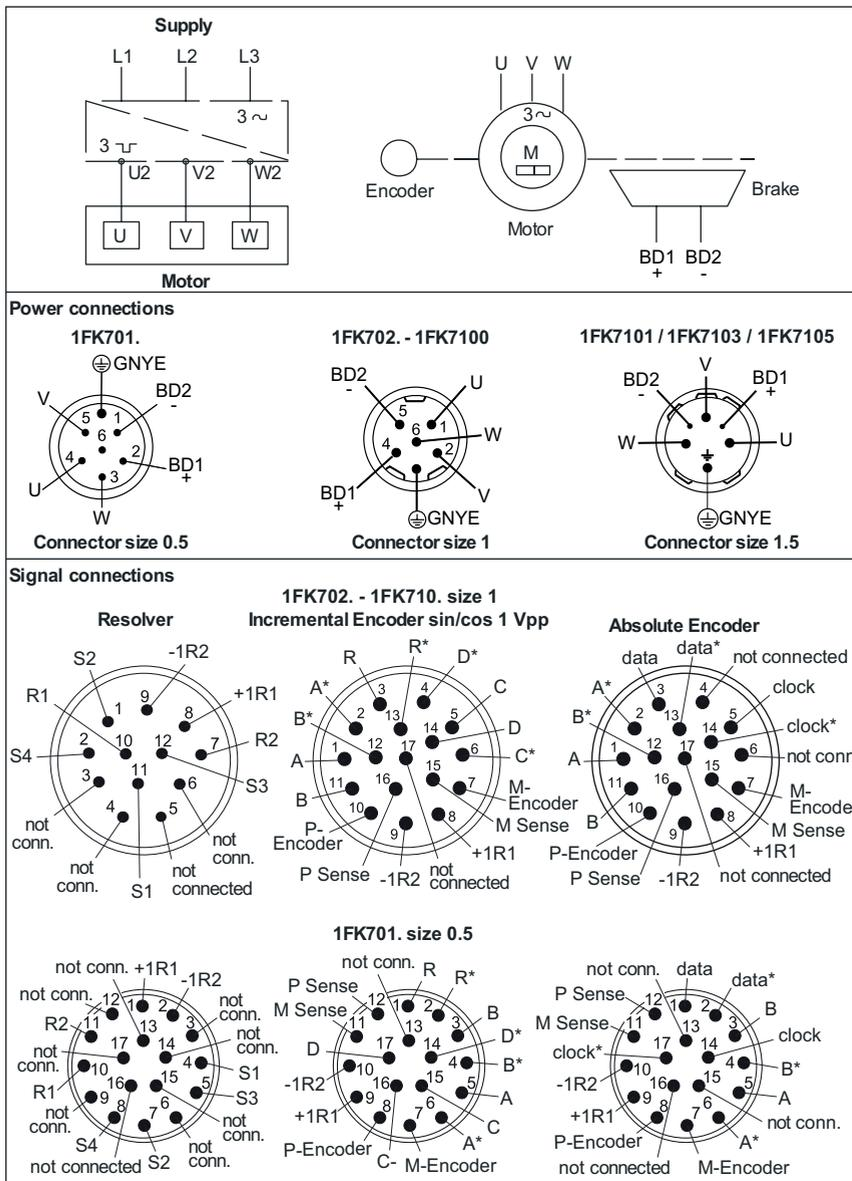

Fig. 5 Connection configurations and pin assignment of the connectors
- Observe the data on the type plate (Section 3.1) and the information in the wiring diagrams (Fig. 5).
3. Connect the brake via Fig. 5 the power plug. The polarity must be carefully observed.
2. Assign the plugs according to Fig. 5.
Apply 24 V DC $\pm 10\%$ to the pins +BD1, -BD2 (Fig. 5), and ensure that the rotor is running freely (no rubbing noises).